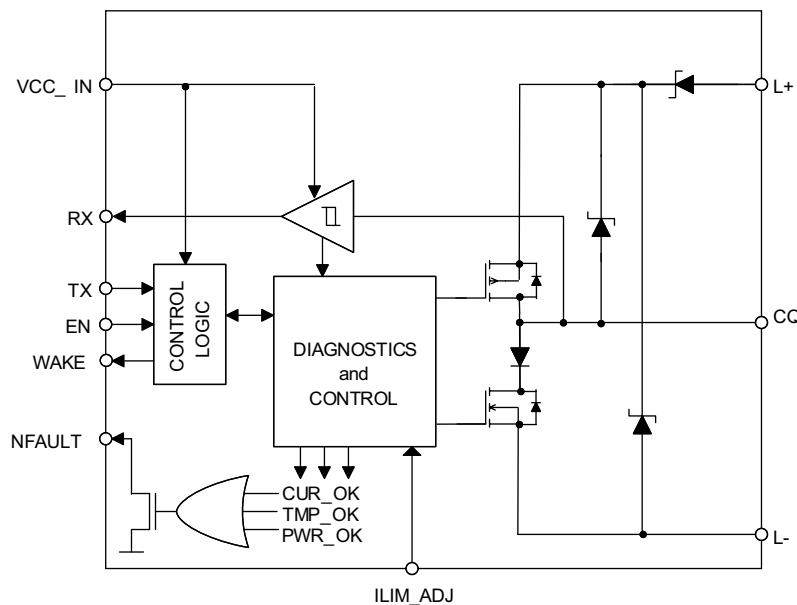

图 11. Block Diagram TIOL111
图 11 shows that the TIOL111 or TIOL111x driver output (CQ) can be used in either push-pull, high-side, or low-side configuration using the enable (EN) and transmit data (TX) input pins. The internal receiver converts the 24-V signal on the CQ line to standard logic levels on the receive data (RX) pin. A simple parallel interface is used to receive/transmit data and status information between the slave and the local controller.